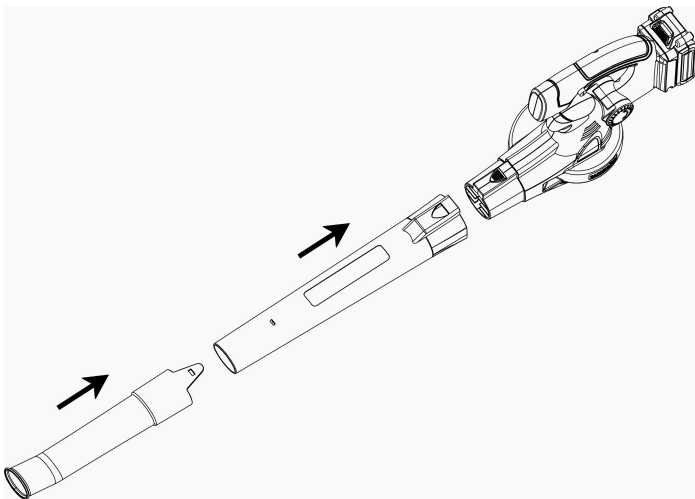
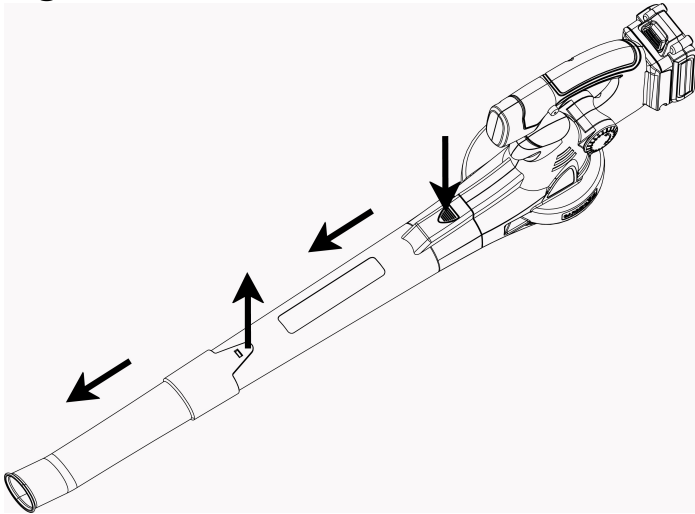

Fig.2
Fig.3
ASSEMBLING THE BLOWER TUBE (Fig. 2 & Fig. 3)
1. Fit the Blower Tube to the motor housing as shown in Fig 2. Check the Blower Tube is firmly secured.
2. Disassembling the Blower Tube, you can separate the tube.(Fig. 3) Cocked up the next part of the
extension Down Blower Tube⑧, so that you can separate the Down Blower Tube.(Fig. 3) Do not try to separate the tubes by force or by using tools.